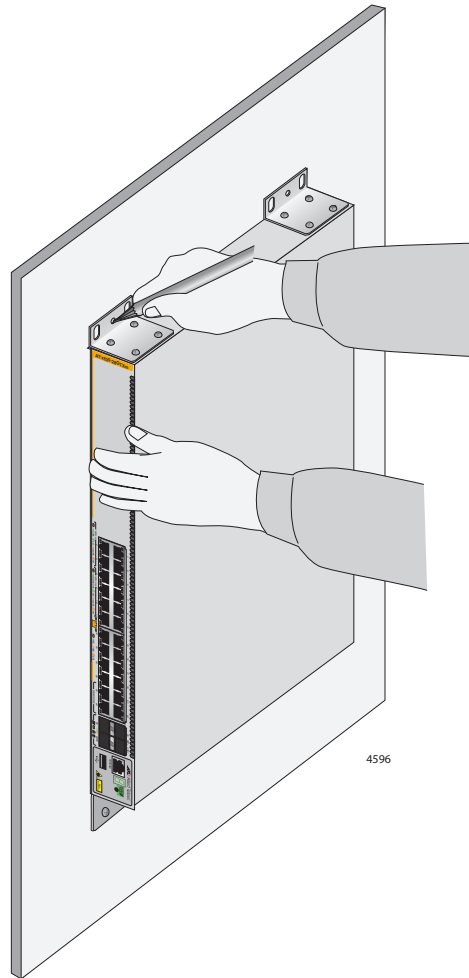

Figure 37. Marking the Locations of the Bracket Holes on a Concrete Wall
3. After attaching the brackets, have another person hold the switch on the concrete wall at the selected location for the device while you use a pencil or pen to mark the wall with the locations of the four screw holes in the four brackets (one screw per bracket). Refer to Figure 37 on page 88.